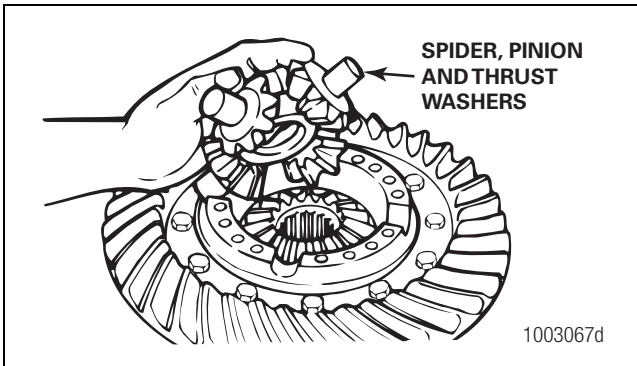

Figure 5.23
12. Install the spider or cross, differential pinions and thrust washers into the flange case half. Figure 5.23.